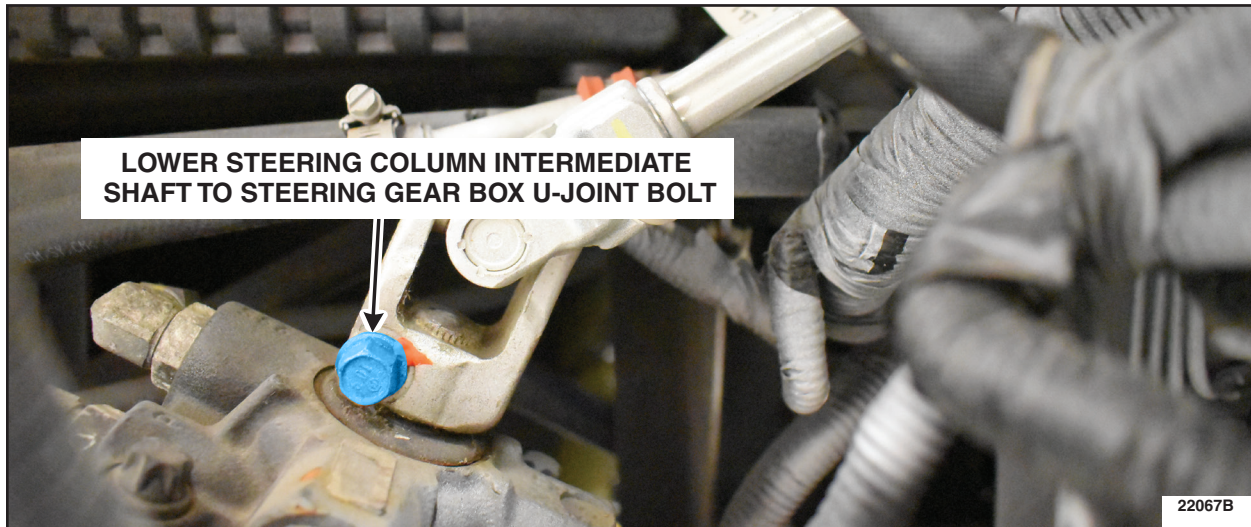

FIGURE 2
3. Verify that the lower steering column intermediate shaft to steering gear box U-joint bolt is torqued to 35 lb.ft (48 Nm). See Figure 2.